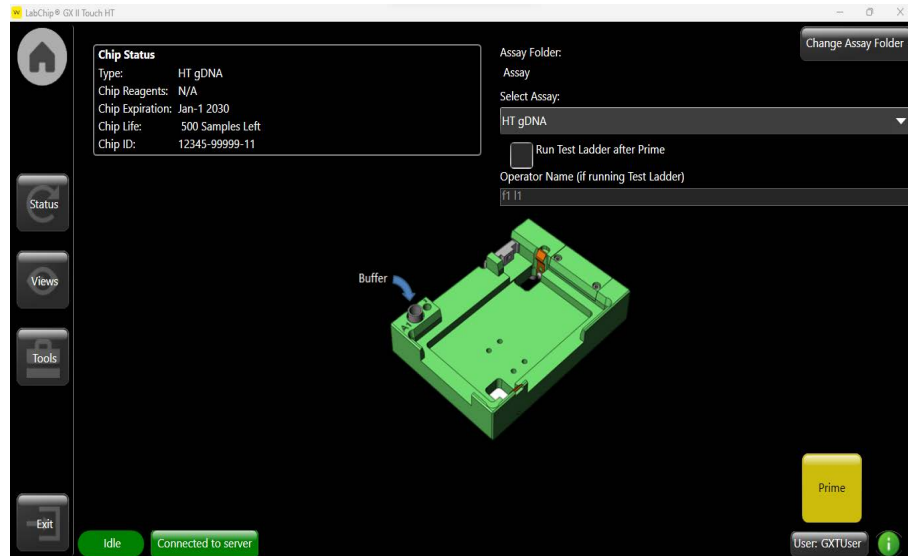

Figure 9. Chip priming screen.
- 1 Touch the *Run* button (see Figure 9).